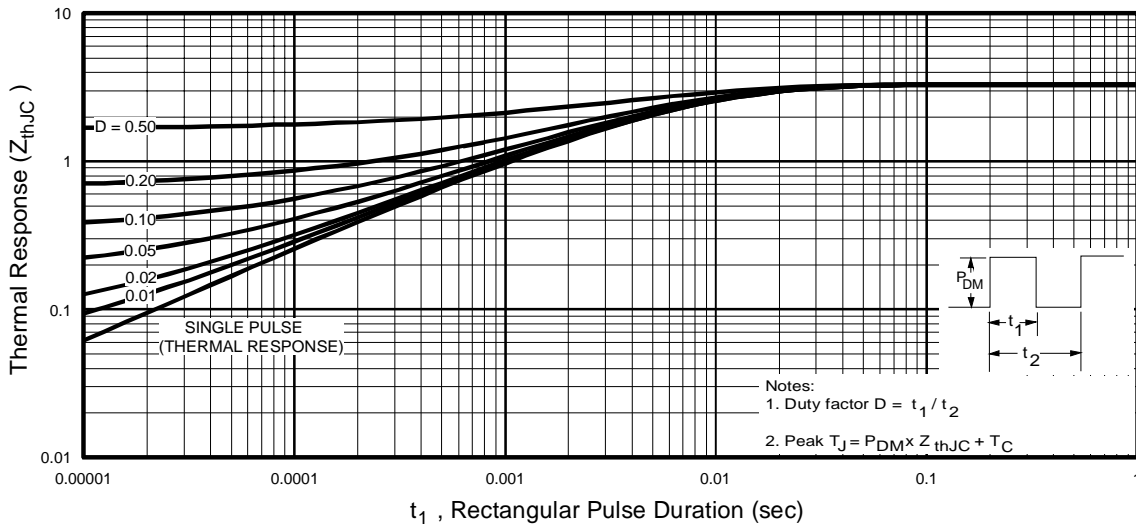

Fig 11. Maximum Effective Transient Thermal Impedance, Junction-to-Case
- ① Repetitive rating; pulse width limited by max. junction temperature. (See fig. 11)
- ② V_{DD} = 15V, starting T_J = 25°C, L = 570μH